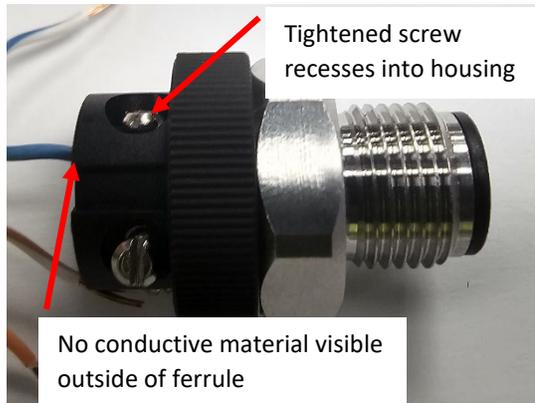

Figure 10
- [9] When tight, screw will recess into plastic housing of connector as shown in Figure 10. There should be NO conductive material visible outside the ferrule. Perform a pull test to ensure the wire is secured.